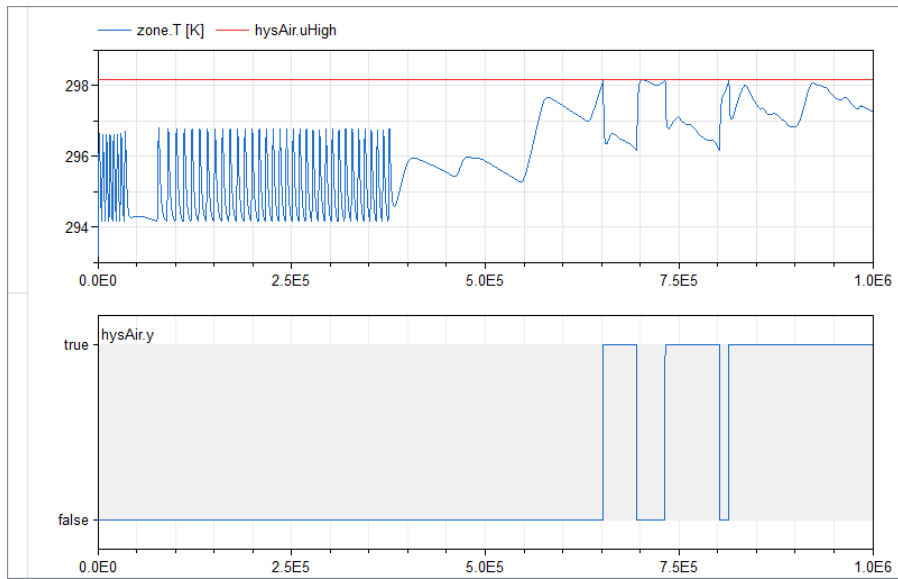

Figure 9: Top: Air temperature and upper bound of ventilation hysteresis controller as function of time.
**Reference result** Figure 9 shows the result.